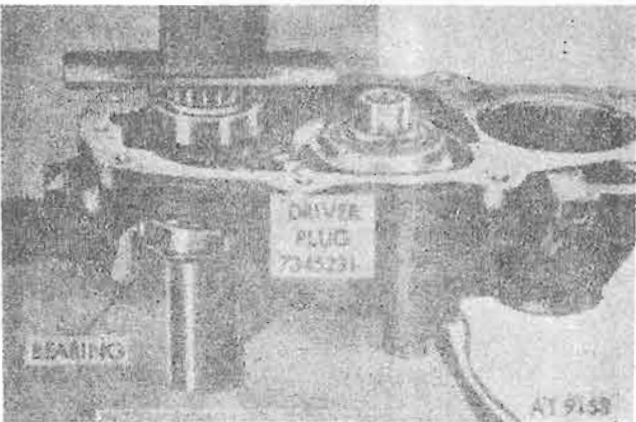

Figure 8-25. Installing output shaft and bearing assembly.
d. Position output gear in case and press output shaft and bearing assembly into rear bearing using driver plug (7345231) (fig. 8-25).